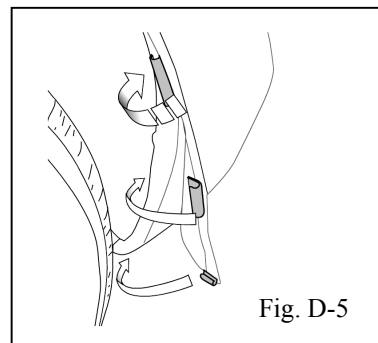

Fig. D-5
- ➡ 5. Attach three (3) plastic clips to the edge of the fender, two (2) at the side and one (1) at the bottom, underneath the vehicle (Fig. D-5.) Repeat on other side of vehicle.